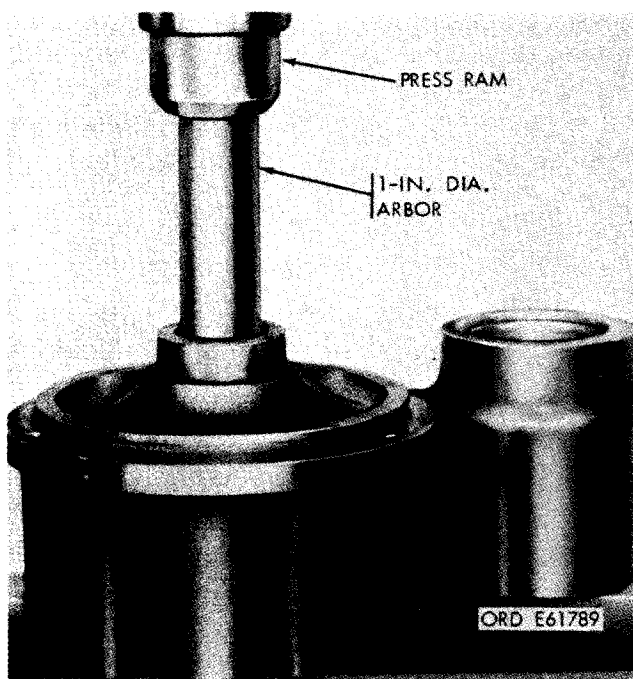

Figure 3-30. Removing or installing bearing in shift housing.
(1) Smooth minor damage such as nicks, burs, etc., on mating surfaces of housing with a fine mill file.
(2) If bushing-type bearing did not meet allowable wear limits, remove the old bearing as shown in figure 3-30. When installing a new bearing, reposition housing with opposite side up from that shown in figure 3-30 and press bearing in flush with housing bore. Drill bushing oil hole using a  $21/64$ -inch diameter drill and oil wick bore as a pilot. Ream bearing to a diameter of  $0.875 \pm 0.001$ -inch.